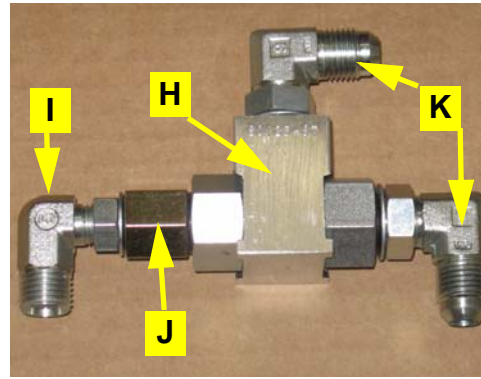

Figure 6a: Assembled load sense shuttle
- a. Assemble the load sense shuttle **H** with adapter fittings **I**, **J** and **K** (Figure 6a).